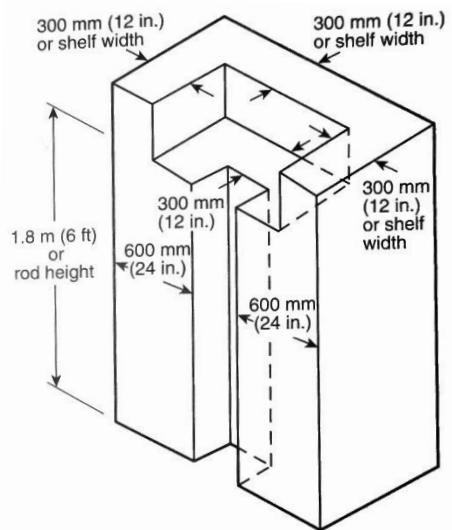

Figure 1. Clothes Closet Storage Space [CEC 410.2]
- **Clearances.** Luminaires in closets are generally required to be kept out of and away from the space typically occupied by clothing. The dimensions of this space are precisely defined in CEC 410.2, and a diagram outlining these is provided in *Figure 1*. The minimum clearance between luminaires and the nearest point of a clothes closet storage space is as follows.
- **Outdoors.** Outdoor lighting permanently mounted to the building or other buildings on the same lot must be controllable by a manual ON and OFF control switch as well as by either (1) a photocell and either a motion sensor or an automatic time switch control OR (2) an astronomical time clock control [CEC 150.0(k)(3)].